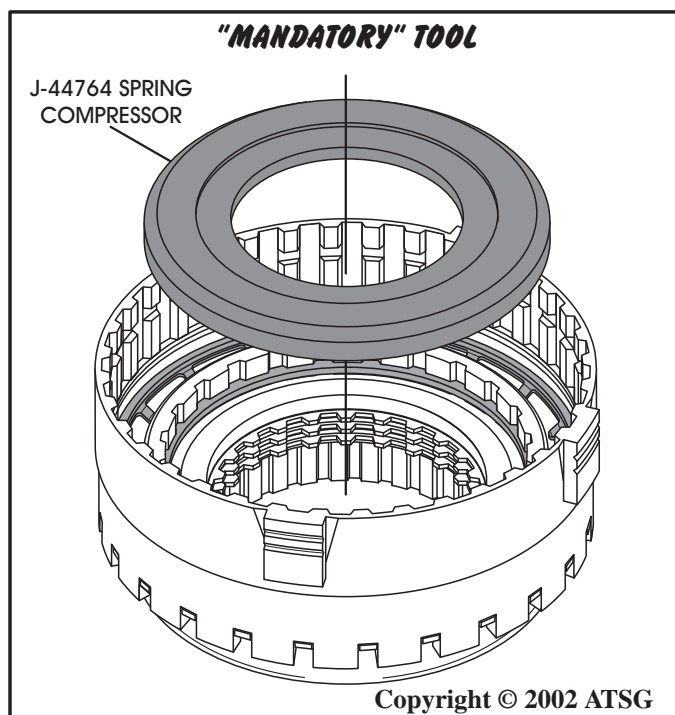

Figure 124
18. Using your foot press and J-44764 spring compressor adapter, as shown in Figure 124, compress the return spring and install the snap ring.